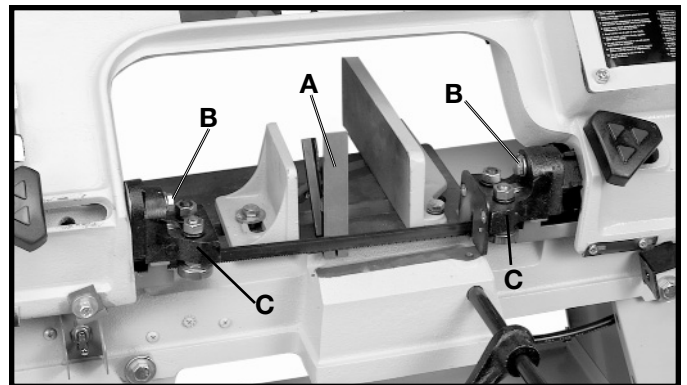

Fig. 21
1. Lower the saw arm to the horizontal position. Place a square (A) Fig. 21, on the table with one end of the square against the blade, as shown.
2. If the blade is not at 90 degrees to the table, loosen the two screws (B) Fig. 21, that attach the blade guide brackets to the guide arms and rotate both guide brackets (C) until the blade is at 90 degrees to the table. Then tighten the two screws (B). **NOTE: CARE SHOULD BE TAKEN NOT TO DISTURB THE BLADE GUIDE SUPPORT BEARINGS WHEN MAKING THIS ADJUSTMENT.**